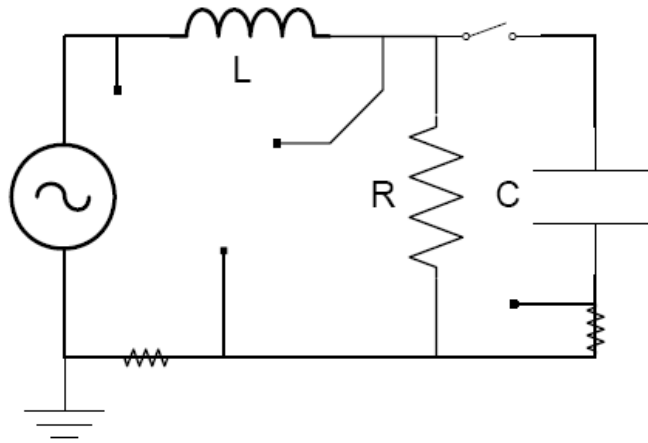

Fig. 4. The experimental circuit to observe compensation. $R= 100 \Omega$, $L=10 \text{ mH}$, $C=1 \mu\text{F}$.
6. (a) Construct the circuit of Figure 4 with the capacitor disconnected. Maintain the source at the settings of the previous procedure. Measure the phasors of the supply voltage and current and the phasor of the voltage across the resistor. Use the voltage across the resistor as reference.